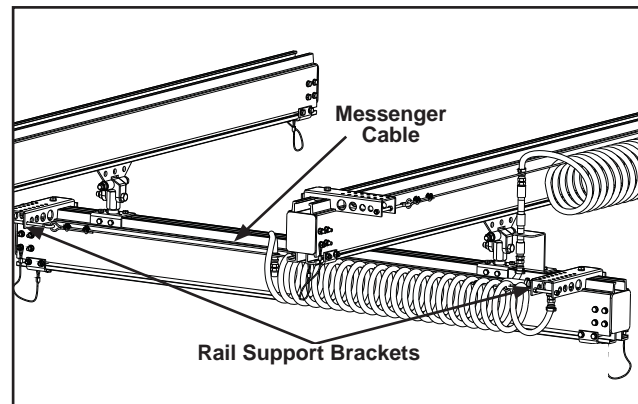

Figure 3-124
- Step 9. Thread eye-bolt and messenger cable through hose coils. Continue threading messenger cable through coils to other end of rail support bracket assembly. See Figure 3-124.